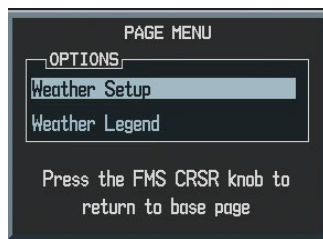

Figure 6-5 Weather Data Link Page Menu
- 3) With 'Weather Setup' highlighted, press the **ENT** Key (Figure 6-5).